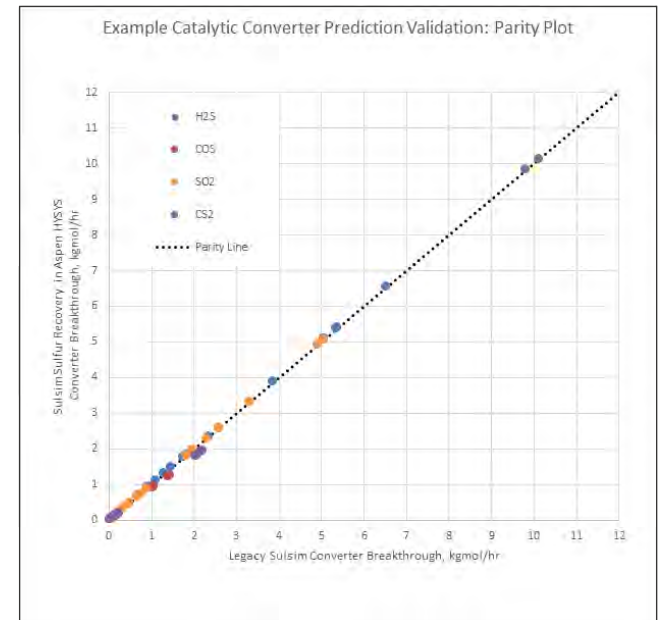

Figure 3: Results from Sulphur Experts' Sulsim compared to Aspen HYSYS for catalytic converter component breakthrough.
- A dedicated Sulsim Sulfur Recovery property package. (See **Figure 3** for components that are required and supported.)